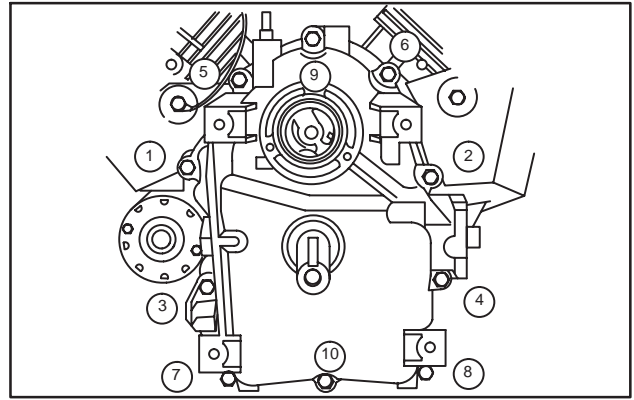

Fig. 6 – Installing Crankcase Cover
- a. Torque screws in sequence shown to 200 in. lbs. (23.0 Nm), Fig. 6.